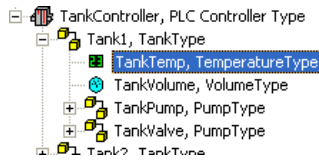

Figure 31. Selected Signal
7. Select a relevant Generic Control Network object, and then a signal based on the signal type. In this example, *TankTemp* is selected as shown in Figure 31.